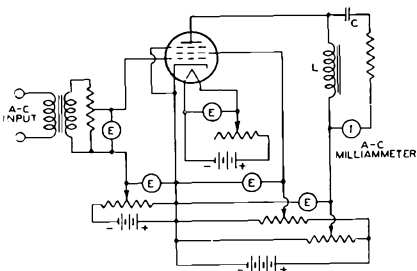

Fig. 39
Fig. 39 shows the fundamental circuit of a power output test for Class A operation of tubes. The diagram illustrates the method for a pentode. The a-c output voltage developed across the plate-load impedance (L) is indicated by the current meter. The current meter is isolated as far as the d-c plate current is concerned by the condenser (C). The power output can be calculated from the current reading and known load resistance. In this way, it is possible to determine the operating condition of the tube quite accurately.